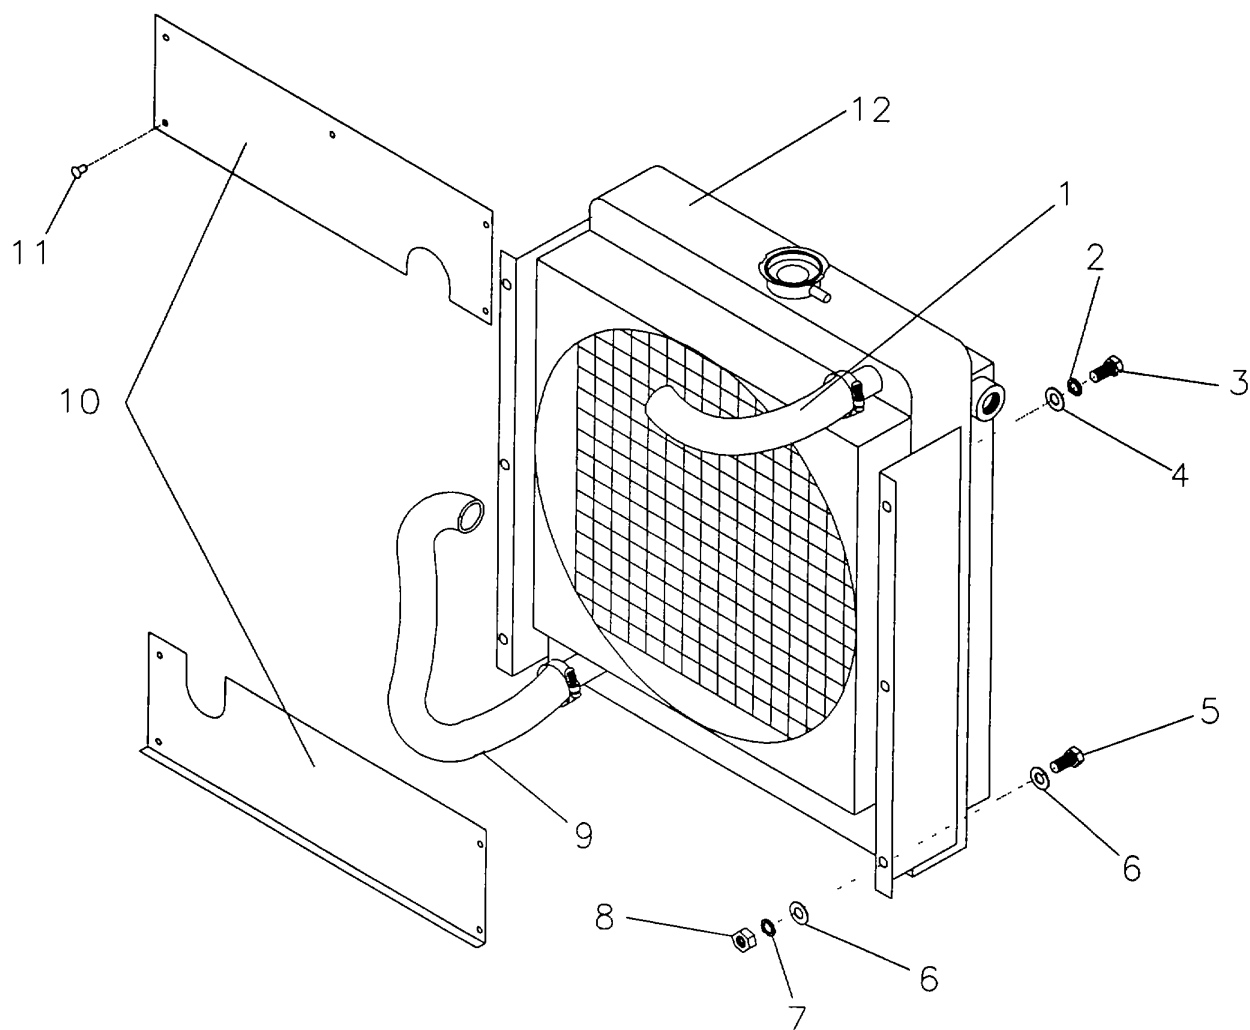

Figure 5-8. Engine Radiator.
a. Removal. Refer to figure 5-8
- 1) Remove the nine screws (11) retaining the upper and lower panels (10)
- 2) Disconnect the upper (1) and lower (9) radiator hoses at the radiator (12).
- 3) Remove the nuts (8), lockwashers (7), flatwashers (6) and screws (5) on each side of the engine radiator and remove the engine radiator (12).
b. Installation. Refer to figure 5-8.
- 1) The engine radiator (12) has two slotted and one tight fitting bolt holes on each side Install the screws (5), lockwashers (7), flatwashers (6) and nuts (8) In the tight fitting holes first These provide the proper alignment for the fan and the radiator shroud. Install the remaining bolts (5), lockwashers (7), flatwashers (6), and nuts (8) and tighten.
- 2) Connect the upper (1) and lower (9) radiator hoses to the radiator.
- 3) Install upper and lower panels (10) with nine screws (11).
- 5) Fill the engine radiator (12) with coolant/antifreeze. Refer to paragraph 4.20.